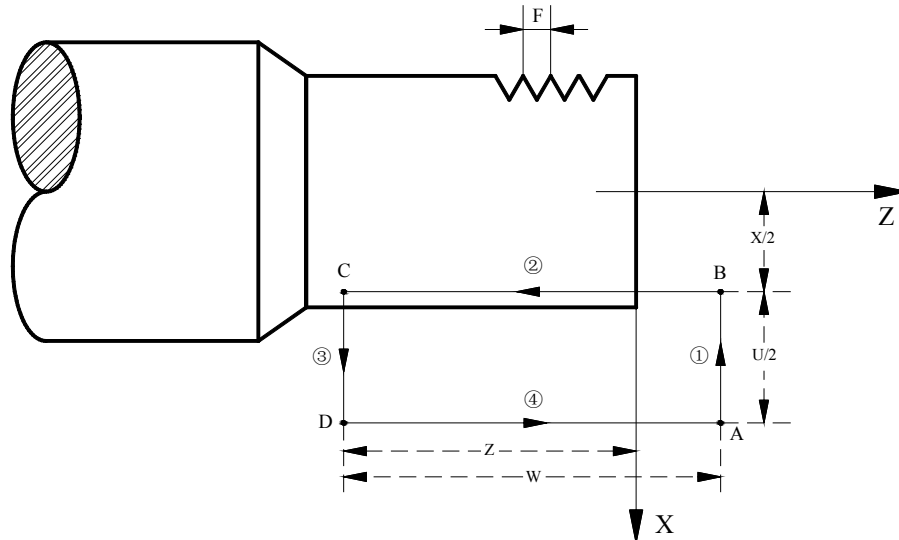
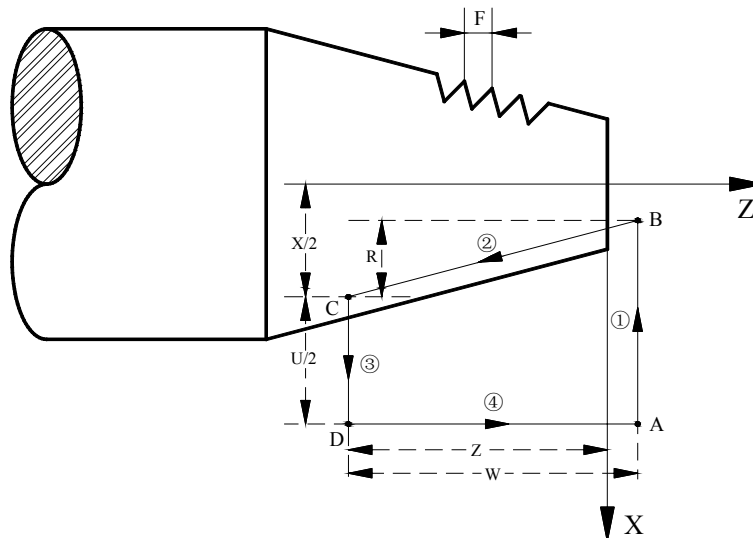

Fig. 3-92
Fig. 3-93
**Cycle process:** straight thread as Fig.3-92 and taper thread as Fig.3-93.
- ① X axis rapidly moves to the cutting start B from the cycle start A. Spindle positions to the start angle if it is the multi-head thread. Refer to the motion ① in the Fig. 3-92 or 3-93;
- ② The feed axis is interpolated to end C with the spindle thread from the cutting start B,
the feed axis and spindle are entirely stopped at the end C. Refer to the motion ② in the Fig. 3-92 or 3-93;
- ④ Z axis retreats to A from point D at the rapid traverse rate, simultaneously, the spindle positions to the initial angle of the cycle machining, and then the cycle is ended, refer to the motion ④ in the Fig. 3-92 or 3-93.